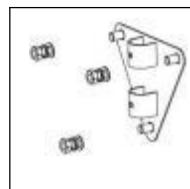
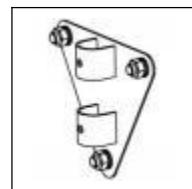

Fig.3.
Fig.4.
- 3). Install the wall panel (2) on the wall and lock three the nut (3). You may need to use a small wrench. See the (Fig.3.) (Fig.4.)